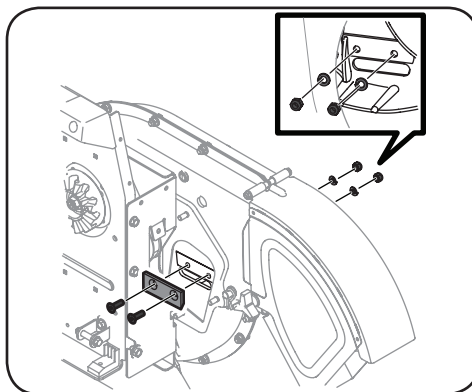

Figure 5-11
11. Remove the blade by removing the internal hex screws, lock washers and hex nuts which secure it to the impeller. See Figure 5-11. Retain the hardware.